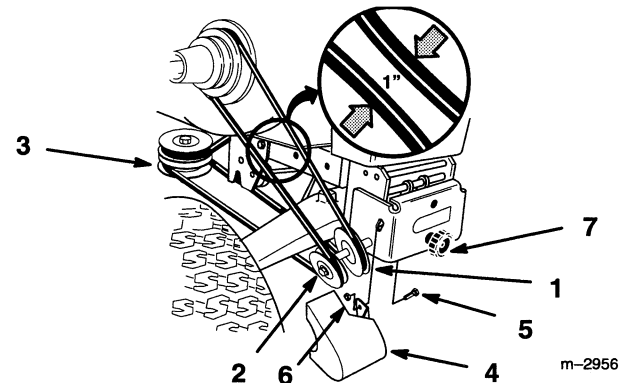

Figure 34
9. Route belt, from lower mower pulley, around V and flat pulleys (Fig. 34).
10. Turn knob counterclockwise to tighten belt (Fig. 34). Tighten until there is 1" (26 mm) space between engine clutch and idler pulley when slight pressure is applied to the belt.
11. Install idler belt cover with previously removed bolt and locknut (Fig. 34).